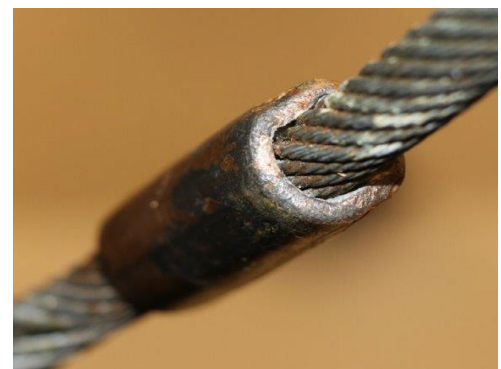
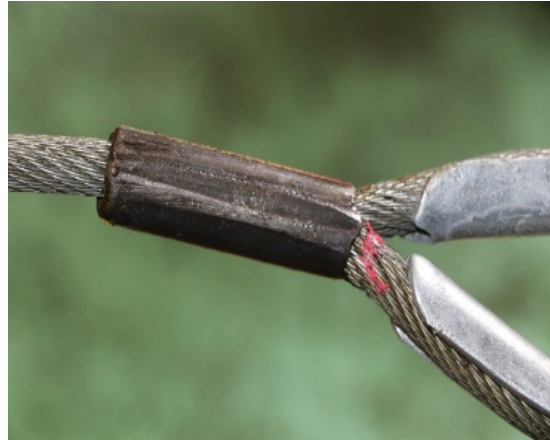

Figure 2: Completed fitting is not "round" nor within manufacturer specifications.
Figure 3: Fitting is deformed with “ridges” of extra material present from over-crimping.
- Visually examine wire rope terminations for abnormalities that may indicate improper installation (Figure 1 shows a crimp with a uniform appearance, Figure 2 shows out-of-roundness, and Figure 3 shows ridges created by over-crimping);